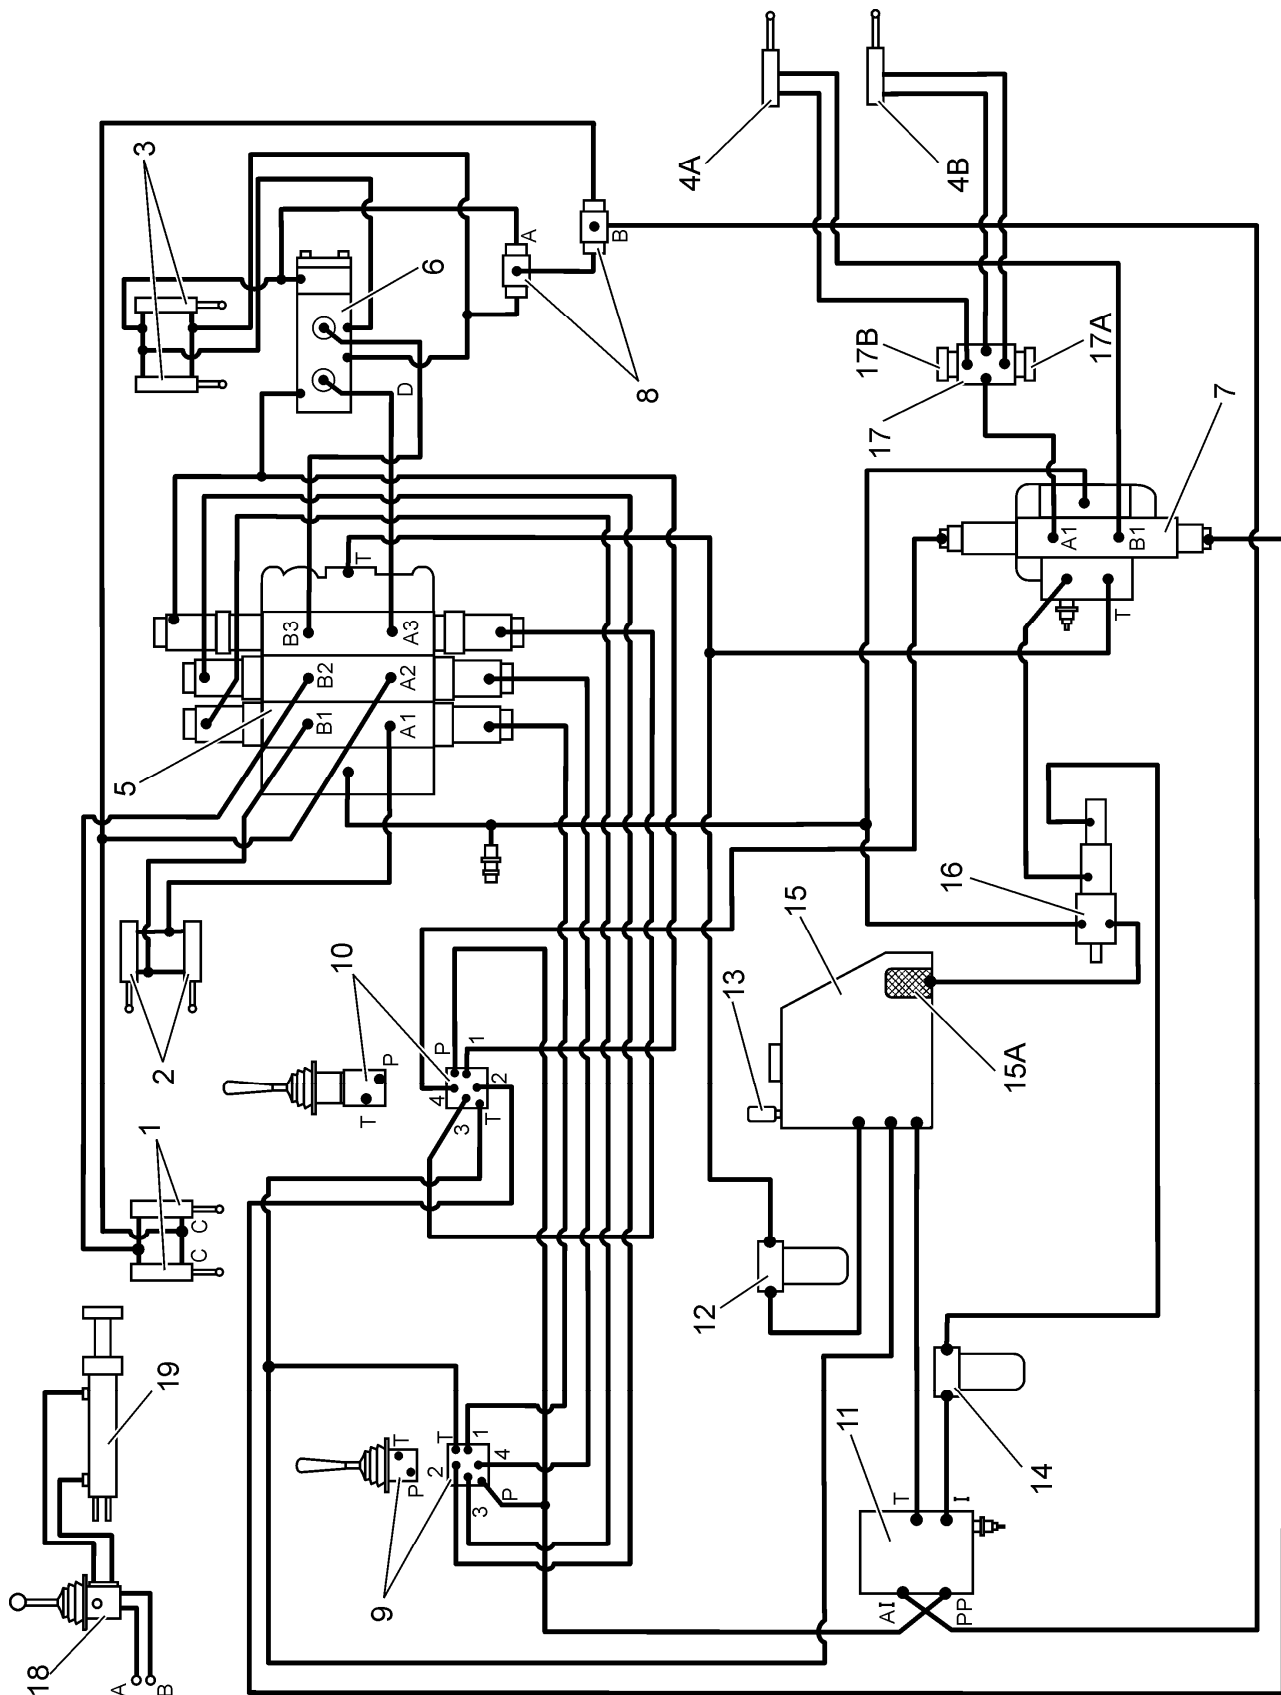

Fig. 10.10. Hydraulic Chart, Blade Tilt/Pitch Attachment
4. If cylinders drift is more than 18 [mm] per minute lower blade and follow below mentioned procedure. Refer to HYDRAULIC CHART Fig. 10.10.
Legend for Fig. 10.10
- If ripper cylinders drift is more than 16 [mm] per minute and blade cylinders drift is more than 18 [mm] per minute lower the blade and ripper and follow below mentioned procedure. Refer to HYDRAULIC CHART Fig. 10.10.
- Plug blade pilot control valve (6) at point **P**. If cylinders drift is much less than checked in point 4 or 7, blade pilot control valve is faulty. Repair or replace the valve. Refer to **BLADE PILOT CONTROL VALVE** in SECTION 10B. If cylinders drift is still the same proceed to next point.
- Plug ripper pilot control valve (7) at point **P**. If cylinders drift is much less than checked in point 4 or 7, ripper pilot control valve is faulty. Repair or replace the valve. Refer to **RIPPER PILOT CONTROL VALVE** in SECTION 10B. If cylinders drift is still the same, pilot pressure valve is faulty. Repair or replace the valve. Refer to **PILOT PRESSURE VALVE** in SECTION 10B.